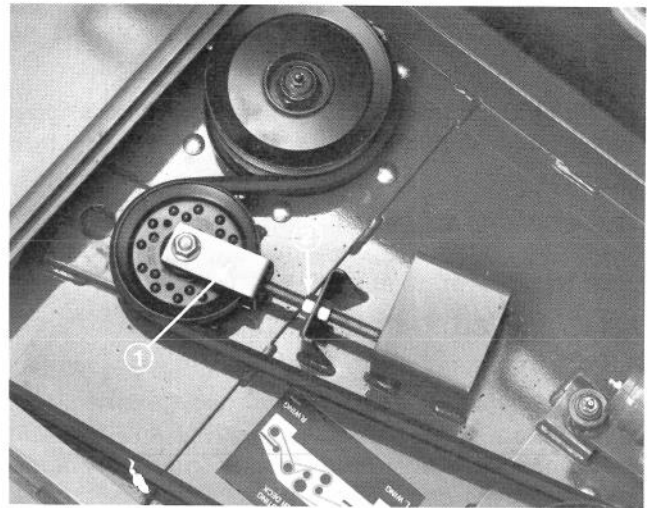

Figure 61
3. Loosen jam nuts for tension arm (Fig. 61). Adjusting tension arm changes length of the compression spring (Fig. 61). Monitor compression spring and adjust tension arm until spring length is at 5–1/2 in. (14 cm) and shoulder bolts are centered.
2. Loosen jam nuts securing tension arm until compression spring on idler assembly is relaxed (Fig. 61).